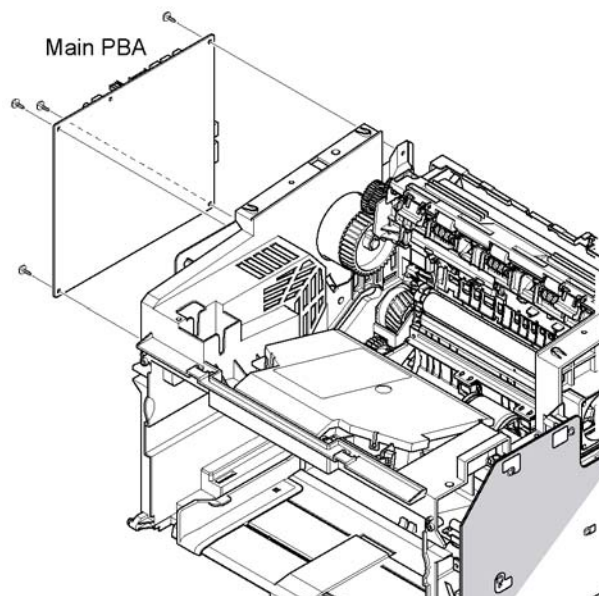

Figure 2
4. Remove 4 screws securing the main PBA and remove it, Figure 2.